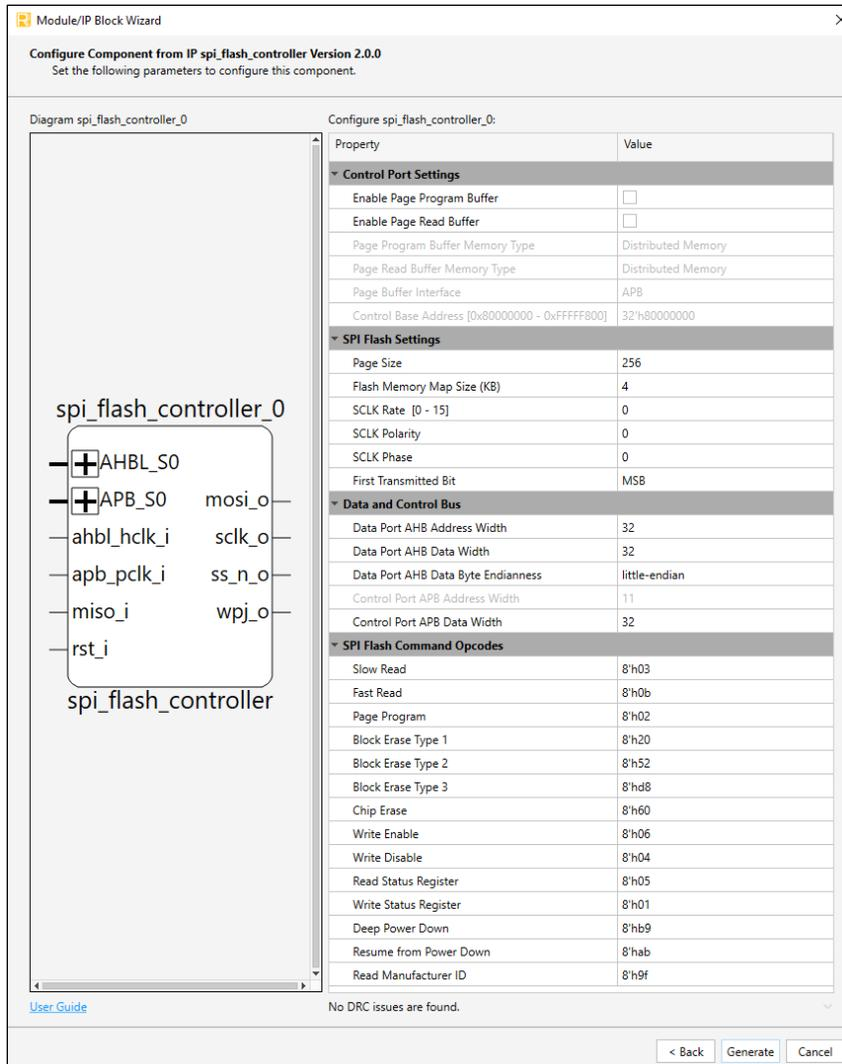

Figure 7.2. Configure User Interface of SPI Flash Memory Controller IP Core
3. In the module's dialog box of the **Module/IP Block Wizard** window, customize the selected SPI Flash Memory Controller IP Core using drop-down menus and check boxes. For a sample configuration, see Figure 7.2. For configuration options, see the Attributes Summary section.